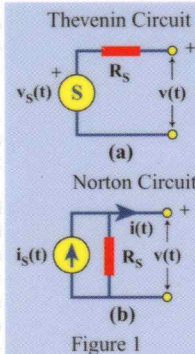

Figure 1
• **Electrical signal** is an information-bearing electrical entity (such as voltage or current) derived from a transducer (e.g. voice signal voltage delivered by a microphone). **Signal processing** refers to processing the electrical signal in a predetermined manner so as to enable the recovery of the information contained in it. Signal sources can be represented by (Fig.1):